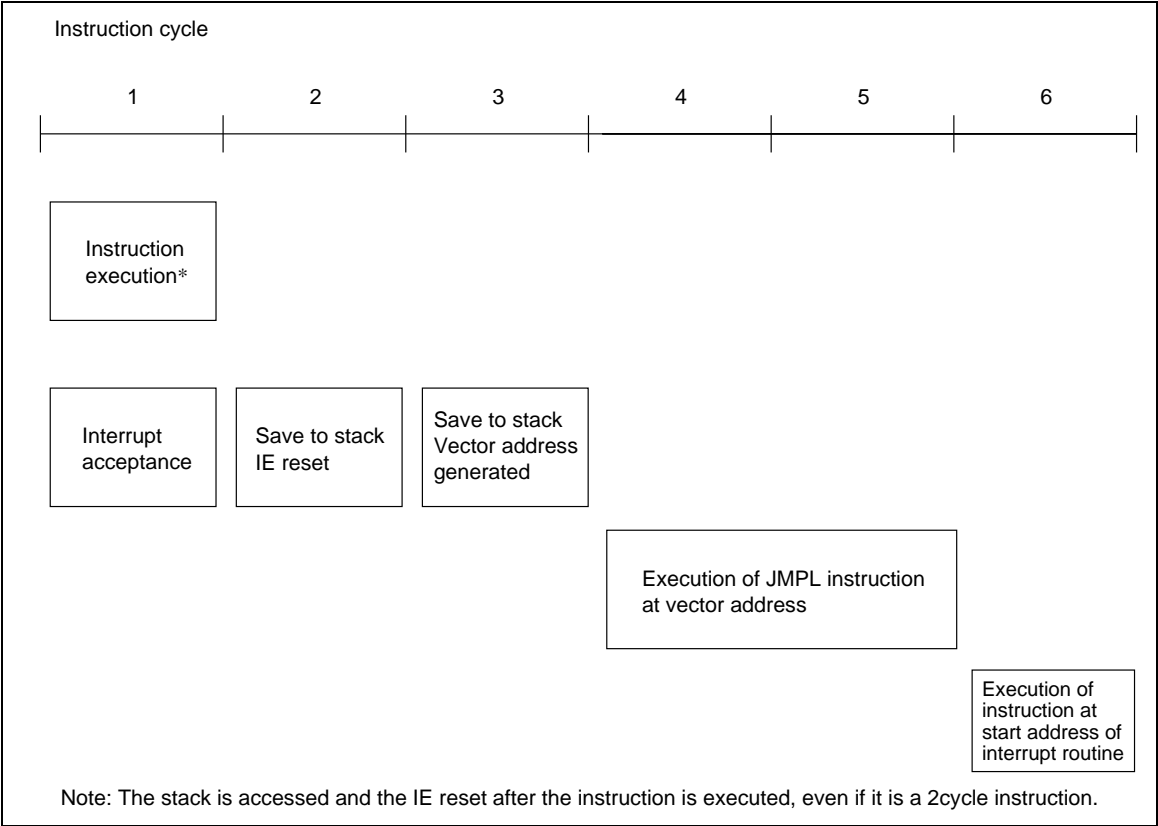
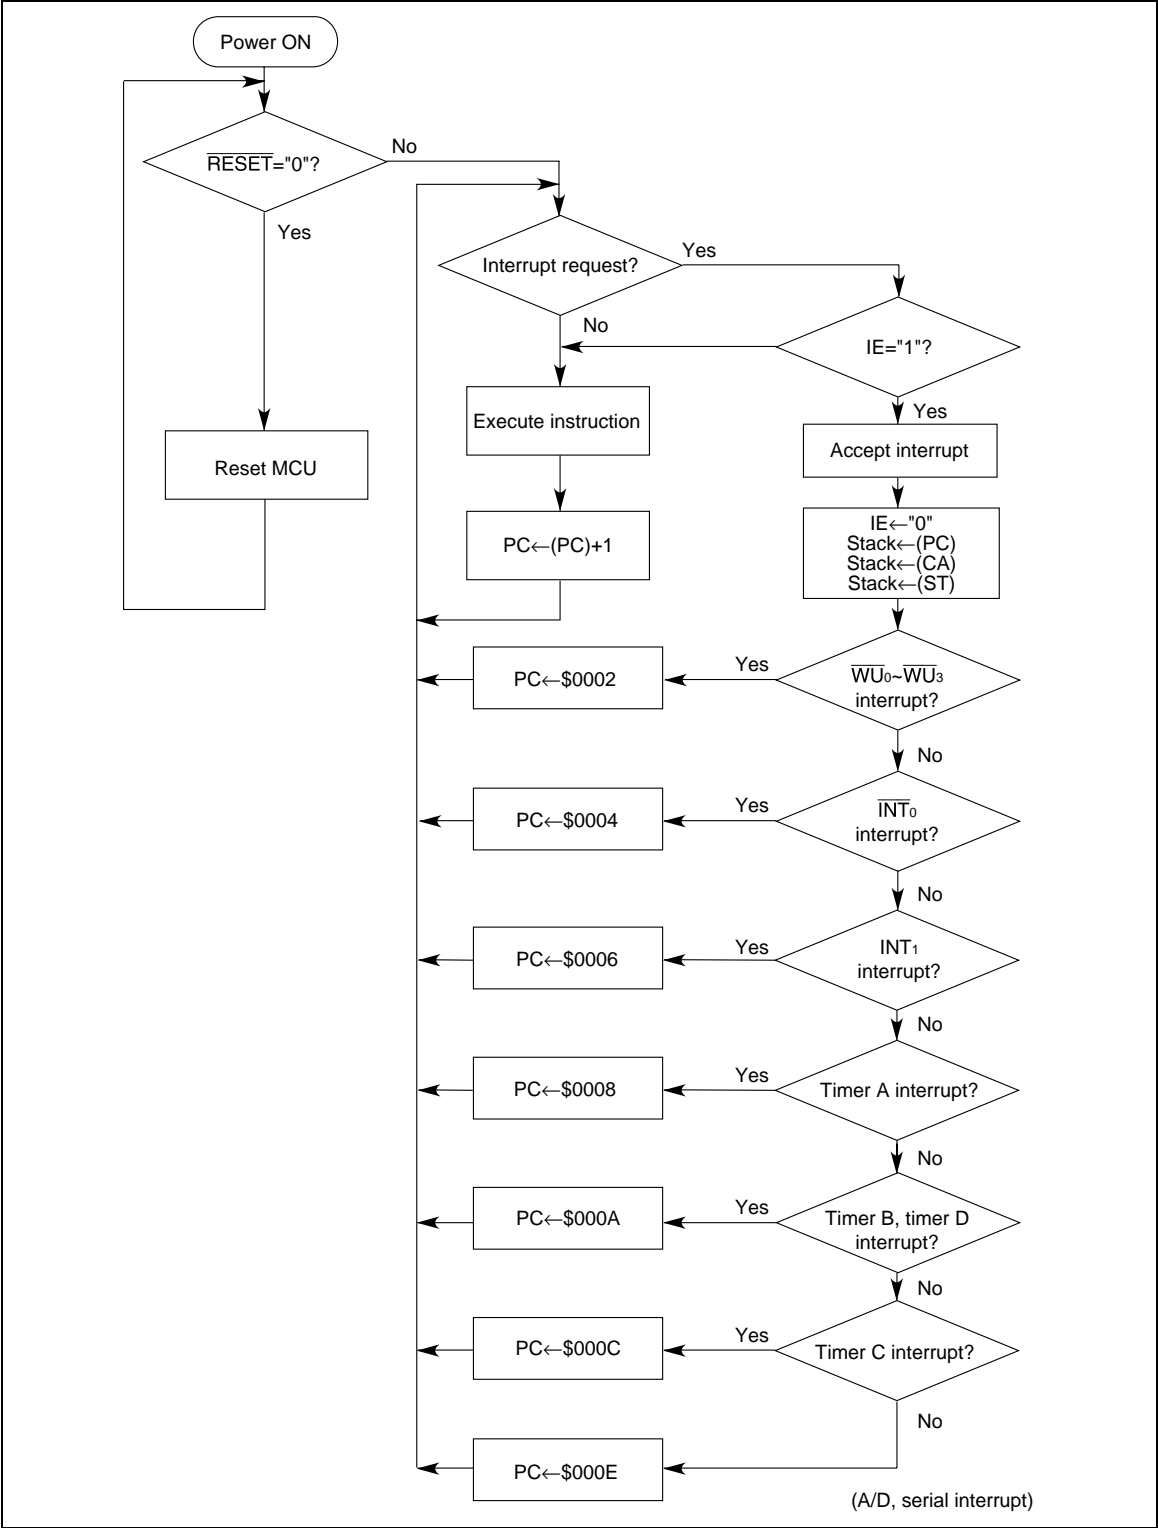

Figure 10 Interrupt Sequence
Figure 11 Interrupt Handling Flowchart
The interrupt handling sequence is shown in figure 10, and the interrupt handling flowchart in figure 11. When an interrupt is accepted, execution of the previous instruction is completed in the first cycle. In the second cycle, the interrupt enable flag (IE) is reset. In the second and third cycles, the contents of the carry flag, status flag, and program counter are saved on the stack. In the third cycle, a jump is made to the vector address and instruction execution is resumed from that address.